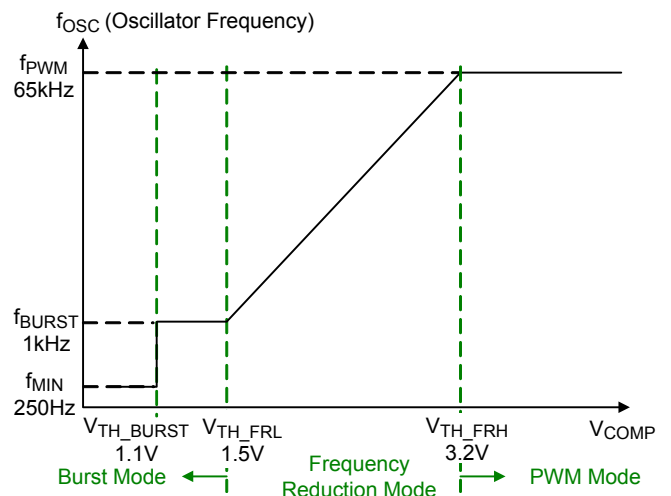

Figure 6. Switching Frequency vs. COMP Voltage
In Figure 6, the triple mode PWM operation provides excellent green power performance, especially under light load and no load conditions.
For improving the efficiency in heavy load conditions, the RT7711A is equipped with a PWM mode operation. In the Figure 6, when the COMP voltage is larger than the voltage threshold (V_{TH_FRH}), the controller enters PWM mode. In this mode, the average switching frequency is fixed at 65kHz (f_{PWM} , typ.)
In Figure 6, to reduce switching losses, the Frequency Reduction (FR) mode is designed to operate at middle load current conditions with the COMP voltage (V_{COMP}) between the voltage thresholds V_{TH_FRH} (3.2V typ.) and V_{TH_FRL} (1.5V typ.). In this mode, the switching frequency, from 65kHz to 1kHz, is linearly modulated by the V_{COMP} .